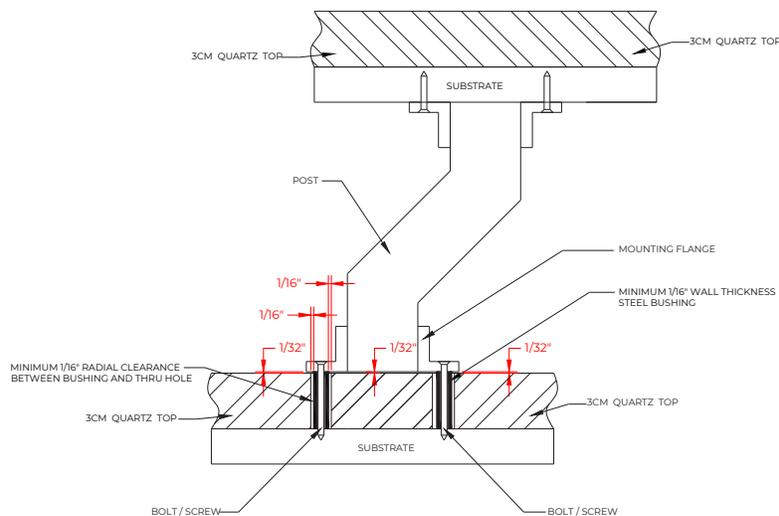

FIGURE 13
13. Never install mechanical fasteners (screws, nails, etc.) directly through Cambria. "Slip fit and glue" inserts may be used with Cambria. Pressure fit inserts are not permitted. See Figure 13.